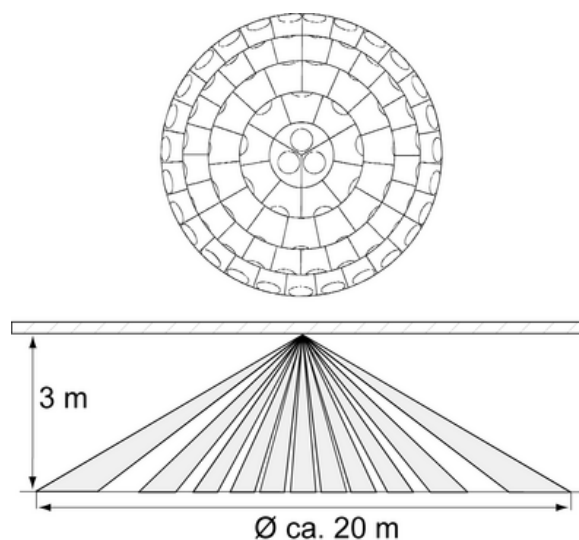
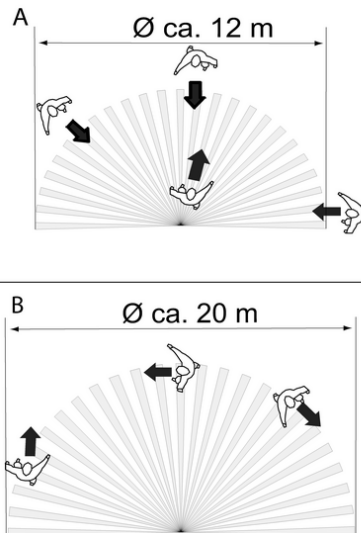

Figure 2: Sensor window and detection area
Figure 3: Detection area dependent on the direction of movement
The motion detector has a detection area of 360° (figure 2). The diameter of the detection area depends on the installation height and the direction of motions of persons in the detection area (figure 3). At an installation height of 3 m the maximum diameter on the floor is approx. 12 to 20 m.
- i** Note direction of motion (figure 3). Motions that are transverse to the motion detector (Drawing B) can be detected better than motions towards or away from the motion detector (Drawing A).